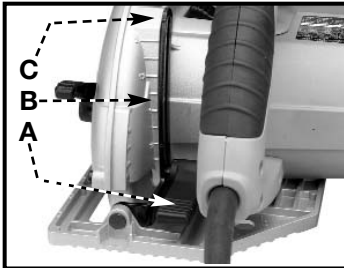

Fig. 6
1. Lift the depth adjustment locking lever (A) Fig. 6, located at the rear of the saw.
NOTE: The upper guard (B) Fig. 6 is marked in 1/4" increments for convenience in setting the depth of cut. Align the depth segment mark (C) Fig. 6 with the desired depth marking on the guard.